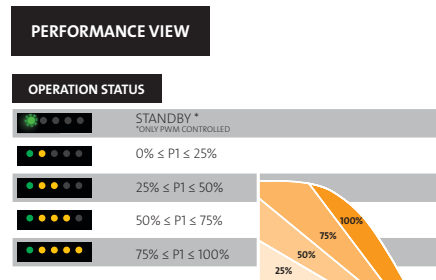

Fig. 19 Operation area according to performance load
- When the circulator is running, LED 1 is green. The four yellow LEDs indicate the current power consumption (P1) as shown in the table below. See fig. 19.